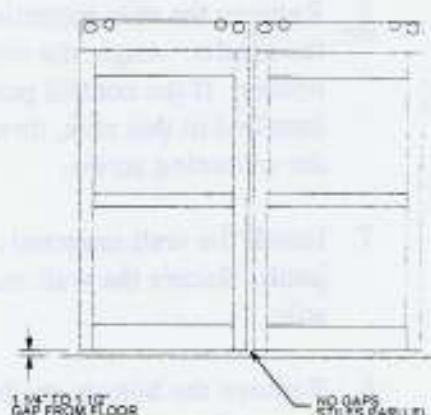

Figure 25
1. Door height from a finished floor is adjustable from 1 1/4 inch - 1 1/2 inch (See Figure 25).